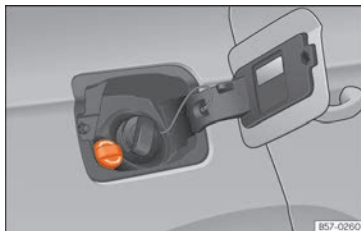

Fig. 198 AdBlue tank cap.
- Open the tank cover »» **Fig. 198.**
- Turn the SCR tank cap anti-clockwise »» Fig. 198.